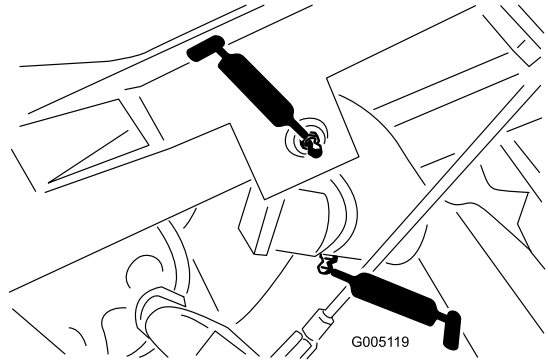

Figure 33
- Lift-arm pivot (3) and pivot hinge (3) (Figure 33)